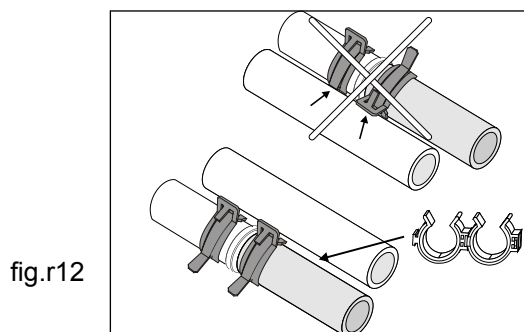

fig.r12
- avoid contact between the clips and other hoses alongside them (fig r12)